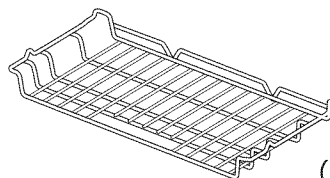

Figure 3
- **Offset handle oven rack to use with upper oven only** (Figure 3).
The **Offset Handle Oven Rack** is used to maximize cooking space (See Figure 3). The offset rack can be used only in the lower rack position of the upper oven only.